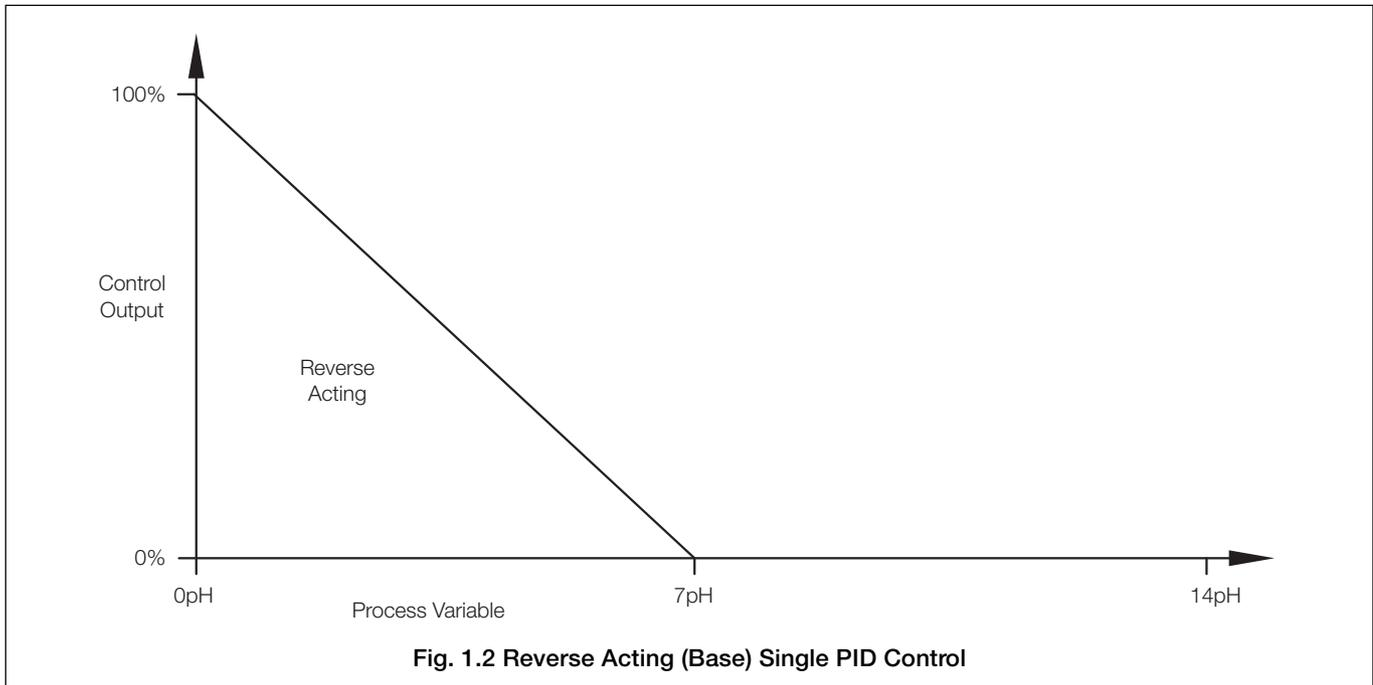

Fig. 1.2 Reverse Acting (Base) Single PID Control
1.1.1 Reverse Acting (Base) Single PID Control – Fig. 1.2